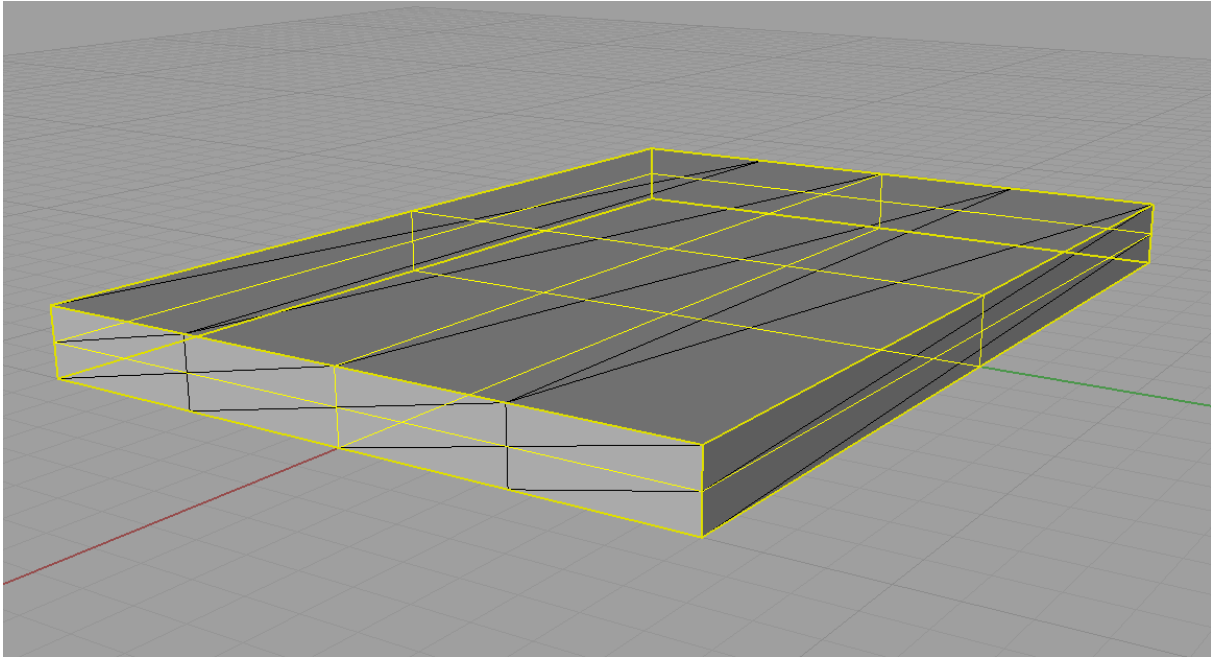

Figure 28: The poorly conditioned mesh with the 6 continuous surfaces created to replace it. The continuous surfaces are highlighted in yellow.
- ✦ Repeat the process of creating continuing surfaces for the remaining 5 sides. The results will look like that shown in Figure 28.